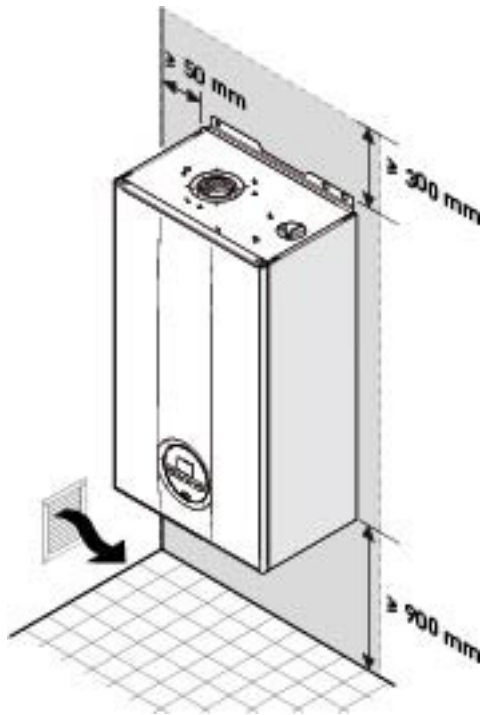

Fig. 11
- Remember to consider the space needed in order to access the safety/adjustment devices and to carry out maintenance interventions (see Fig. 11).